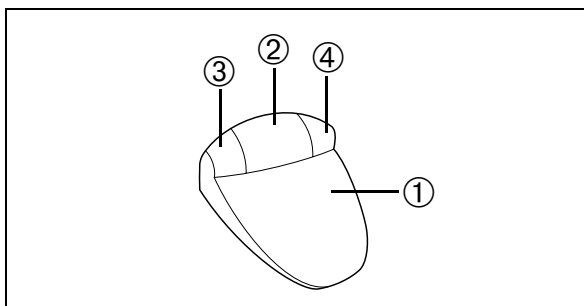

Fig. 39
The speed is pre-selected using the left-hand 3 and right-hand 4 buttons on the foot control (Fig. 39).
- Holding down the left-hand button 3 (Fig. 39):
- Holding down the right-hand button 4 (Fig. 39):
The direction of rotation is changed using the left-hand button 3 (Fig. 39) on the foot control.